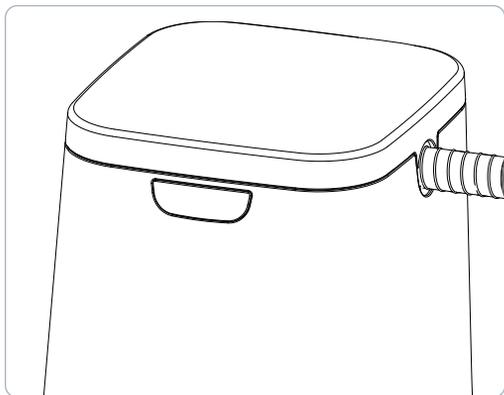

Figure 8. Closed Lid with PAP mask inside
5. Close the Lid with the hose placed in the open slot (Figure 8). The SoClean 2 will now automatically operate according to its preset time and duration.